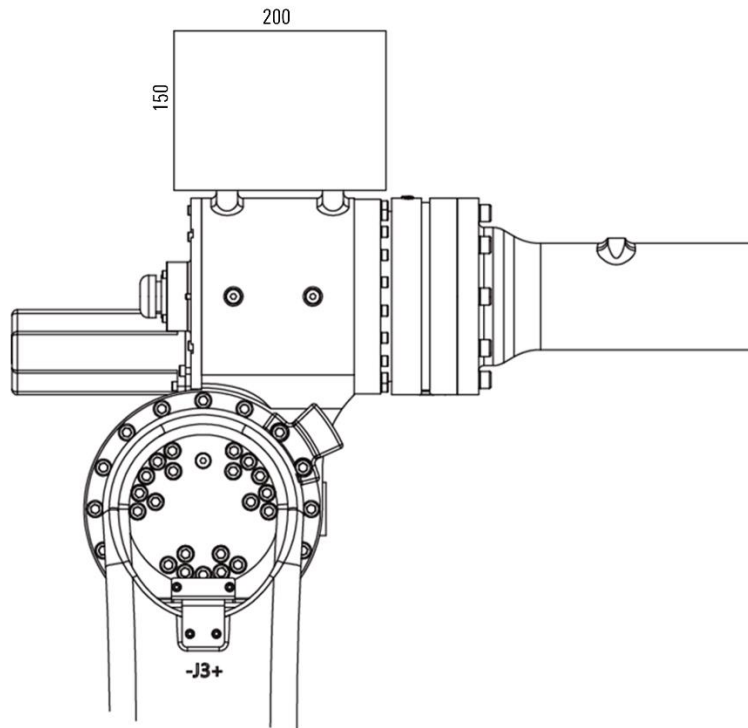

Figure 6-10 Diagram of AIR75-2100B elbow load interface size
- The center of gravity of the elbow load should not exceed the rectangular shape enclosed by the four M8 threaded holes in Figure 6-10, which is 200mm long, 150mm wide, and 150mm high.
The specifications and dimensions of the installation holes for the J3 axis elbow of the AIR75-2100B are shown in Figure 6-10.